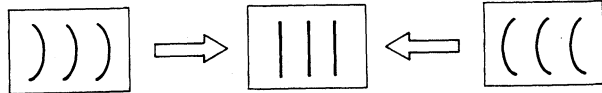

Fig. 31-6
2. Minimize the Y.BOW distortion with Y.BOW (RV13) on the D board as shown in Fig 31-6.